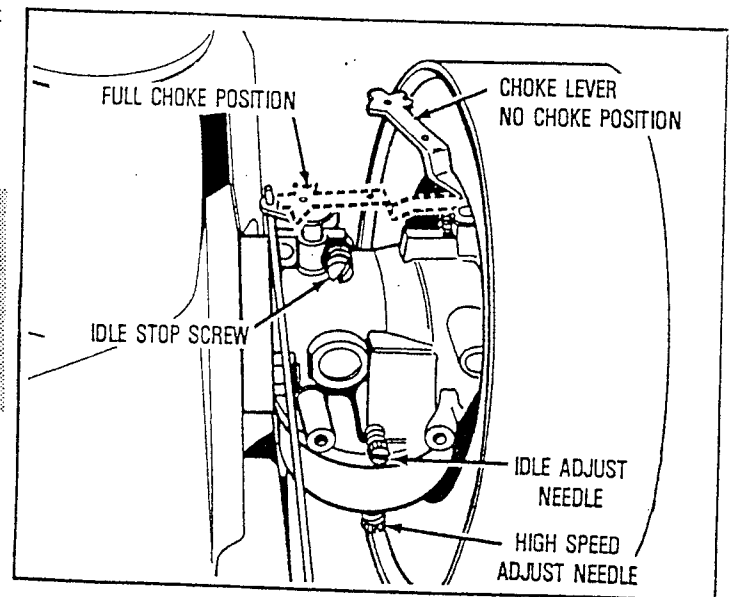

Figure 7
## ① CARBURETOR ADJUSTMENTS (see Figure 7)